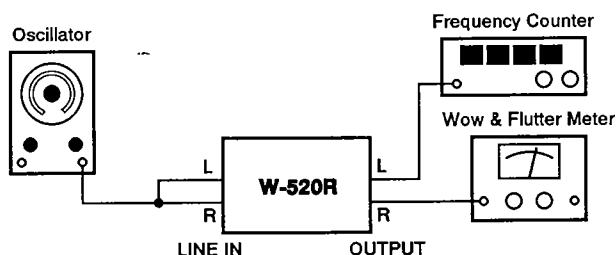

Fig. 3-1
- 1) Connect a wow-and-flutter meter to the deck as shown in Fig. 3-1.
- 1) Connect a frequency counter to the deck as shown in Fig. 3-1.